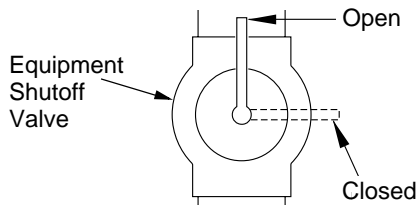

Figure 15 - Equipment Shutoff Valve
1. Close equipment shutoff valve (see Figure 15, page 13).
1. Open equipment shutoff valve (see Figure 15).